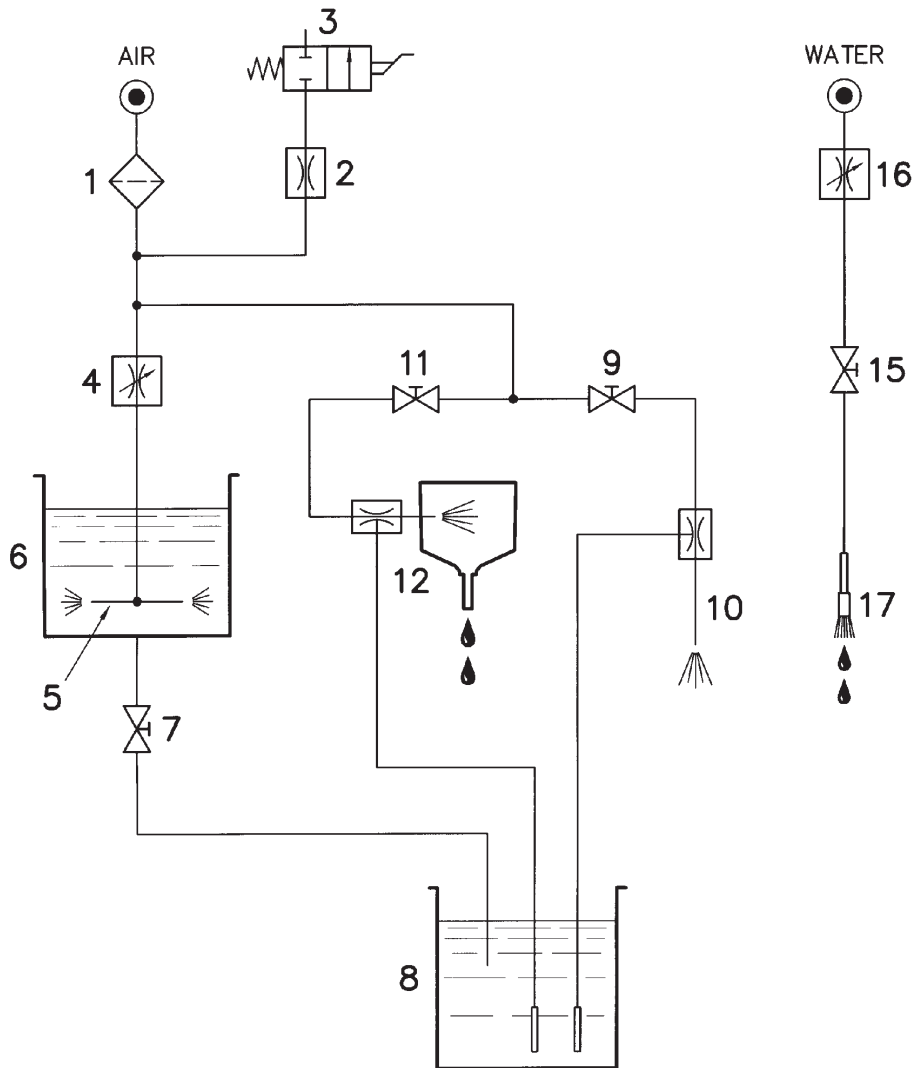

Figure 3
7. HYDROPNEUMATIC SYSTEM (see fig 3)